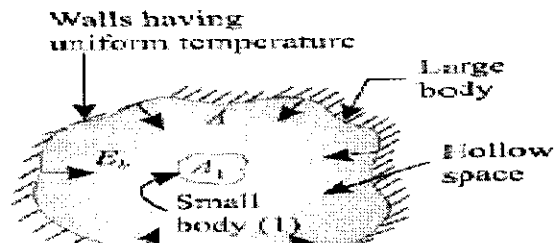

Fig. 1.1. Derivation of Kirchhoff's law.
Let us consider a large radiating body of surface area A which encloses a small body (1) of surface area A_1 (as shown in Fig. 1.1).